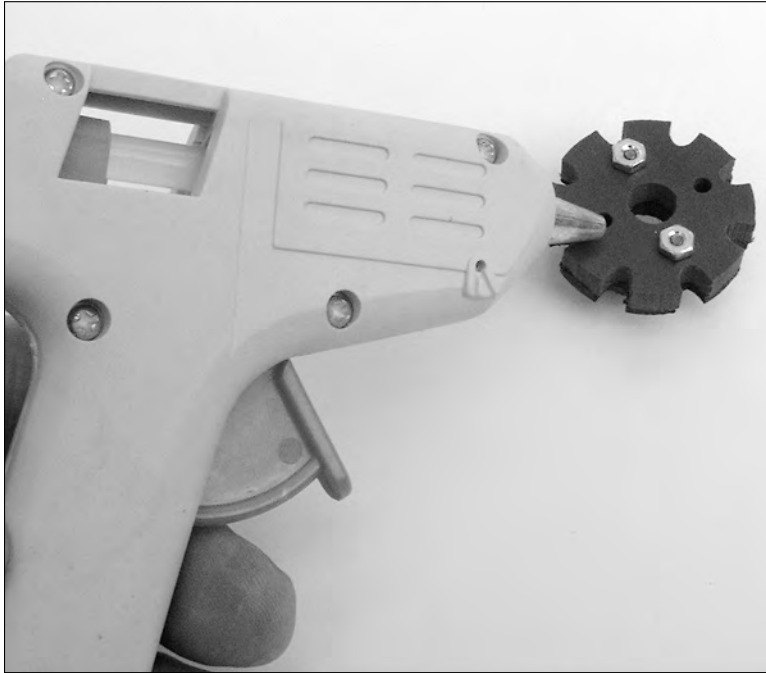

Figure 3-8:
- ✔ *Cyanoacrylate (CA) glue* bonds almost anything, almost instantly. Use it with caution because it can easily bond your fingers together. Use ordinary CA glues when bonding smooth and perfectly matching parts; use the heavier-bodied gap-filling CA glue if the parts don't mate 100 percent.
- ✔ A *hot-melt glue gun*, such as the kind in Figure 3-8, is for the person who doesn't like to wait hours for glue to dry. Slip in a stick of glue, turn the gun on, wait a minute for it to warm up, and you can glue things with a